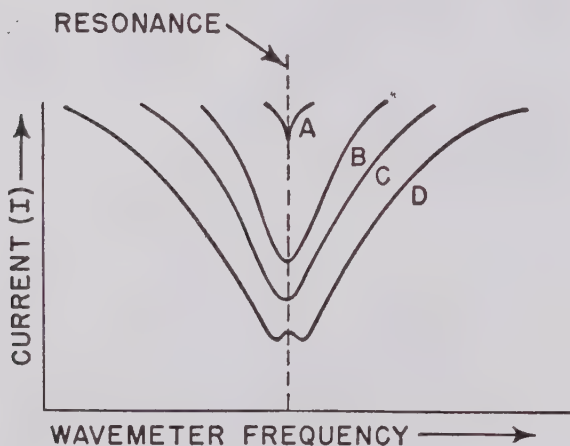

Figure 2. Coupling effects on output current using reaction wavemeter.
pending on its location. To prevent loading of the equipment being measured, the wavemeter is moved away until the least possible variation of the tuning capacitor causes a maximum deflection on the meter (curve A, fig. 2).
- (3) A plot of output current versus wavemeter frequency for various degrees of coupling is shown in figure 2 . When the wavemeter is resonant, the load on the device is a maximum and the current is a minimum. The dips in the curves indicate a dip in the reading of the ammeter. Curve A indicates loose coupling (the wavemeter has been moved away from the equipment being measured). As the coupling is increased, the dip in primary current becomes greater. Curve B represents tight coupling, curve C critical coupling, and curve D overcoupling. For accurate frequency measurements, the coupling is decreased until there is a very small dip in the current meter. Loose coupling is ideal for accurate frequency measurements, since its dip at resonance is very sharp.